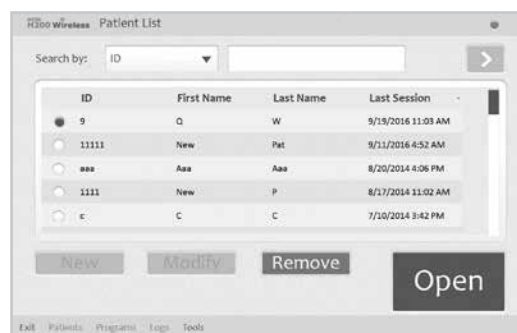

Figure 8-13: Patient List Window
1. Select a patient record from the patient list and press Open, or press New to create a new patient record. See Figure 8-13.